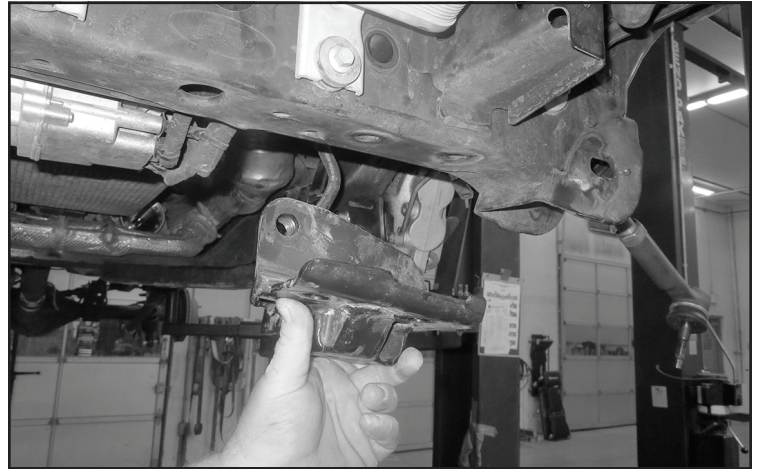
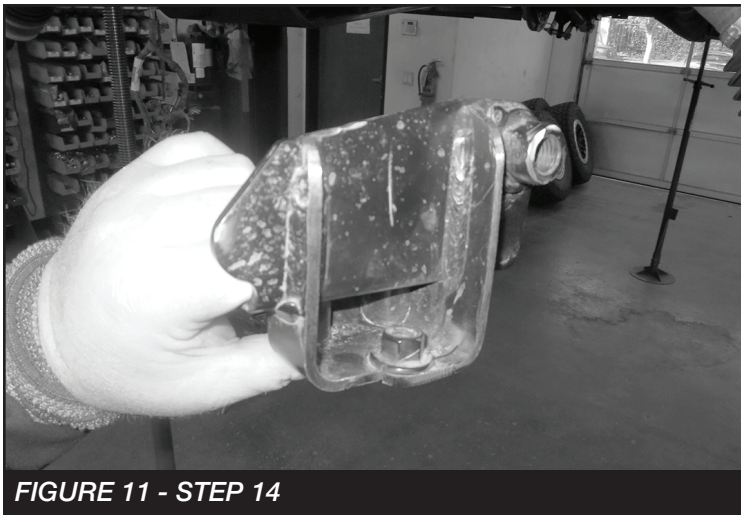

FIGURE 10 - STEP 14
FIGURE 11 - STEP 14
14. Remove the front differential mounting bracket from the front crossmember. **SEE FIGURE 10**. Cut the ears off that attached the diff to the bracket. **SEE FIGURE 11** Then, reinstall the bracket to crossmember.